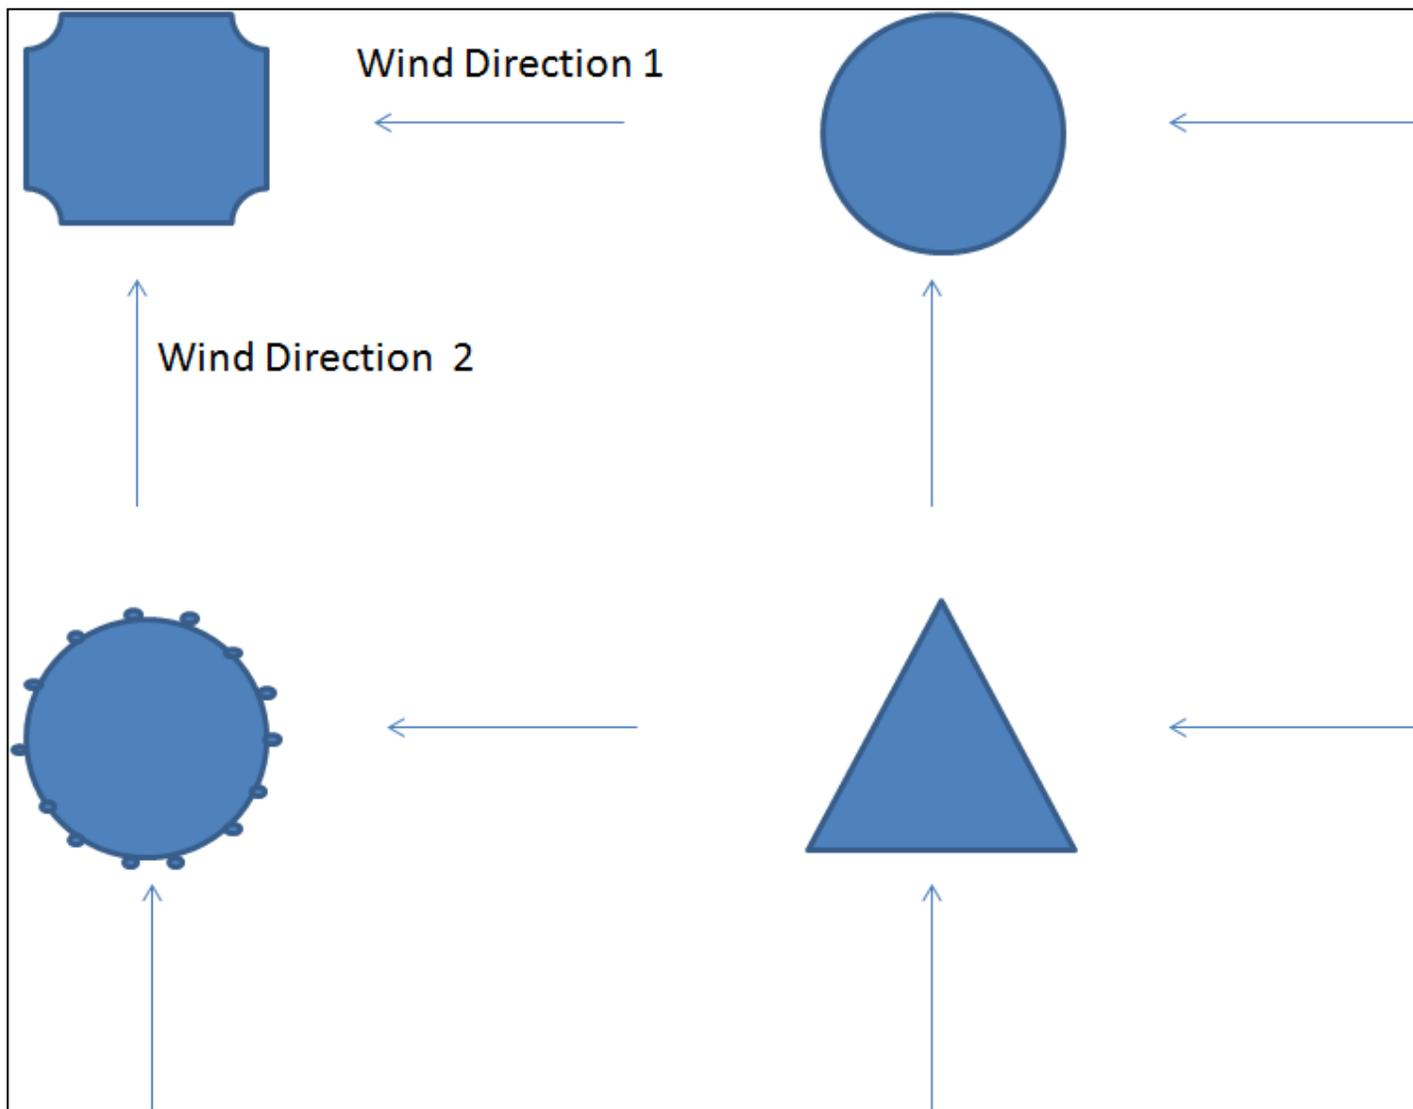

Figure 4: Examples of allowable cross-section shapes and wind directions that will be tested by the FIU Wall of Wind.
- 2.5: Any shape, above the lowest two inches of the gold base, can be used as long as it always has a minimum **solid** width of 8 inches when viewed from any and all directions; see Figure 4 for shape examples.
- 2.6: All building models will be tested for two wind directions at 90 degrees to each other; see Figure 4 for wind directions on various shapes. The building model will be prevented from sliding during the Wall of Wind tests by a small ½ inch high stop that will be placed at the back and side edges of the gold base.